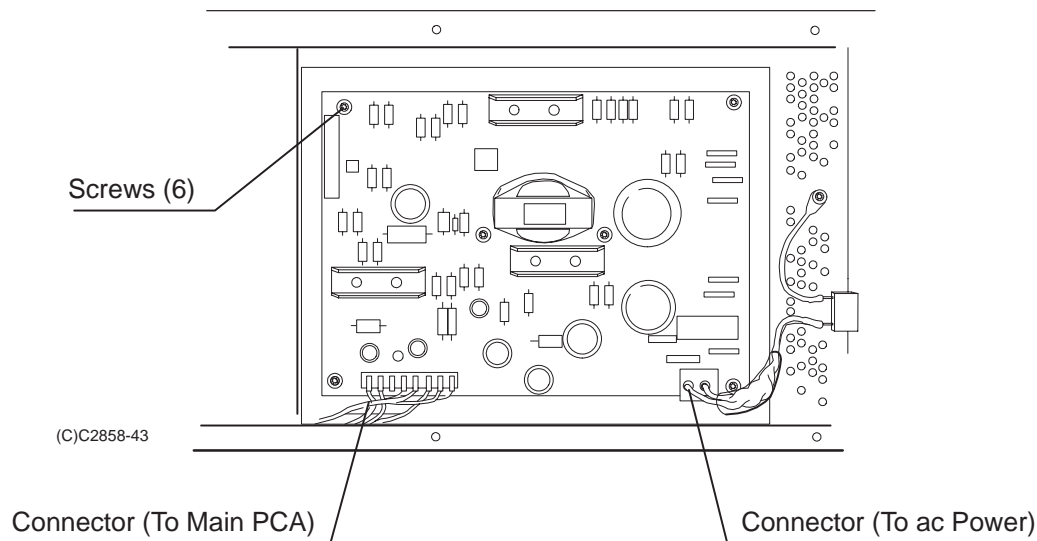

Figure 6-7.
5. Using a TORX T-10 screwdriver, remove the six screws that secure the power supply PCA to the electronics enclosure assembly. See Figure 6-7.